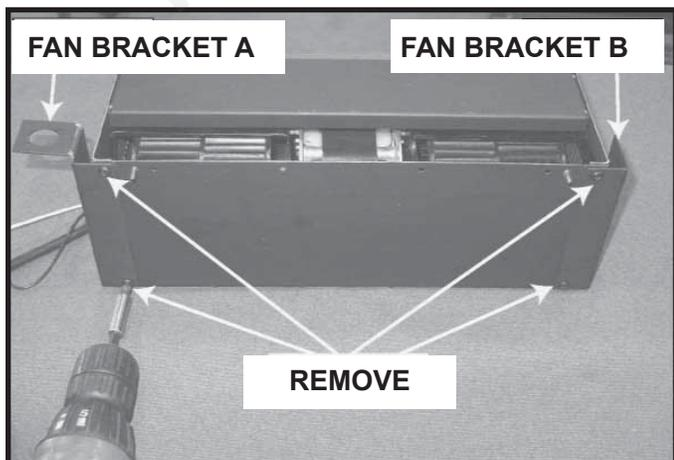

Figure 28
1. Disconnect gas (if connected) and remove the four screws from the blower housing as shown in Figure 28 and set screws aside.